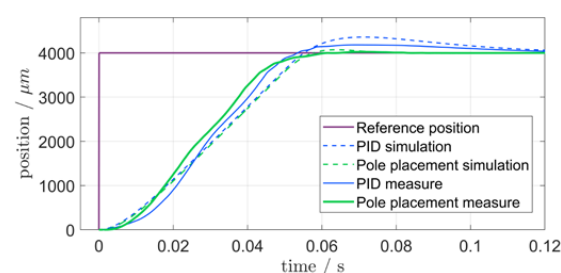

Fig 2. Simulation and measurement of a step response for the PID- and pole placement controllers
**Feedback control** - The discrete-time PID- and pole placement controllers are implemented on the STM32 microcontroller driving the actuator. Fig. 2 shows the measured and simulated step responses of both controllers. The settling time is 120ms and 60ms for the PID- and pole placement controllers, respectively.